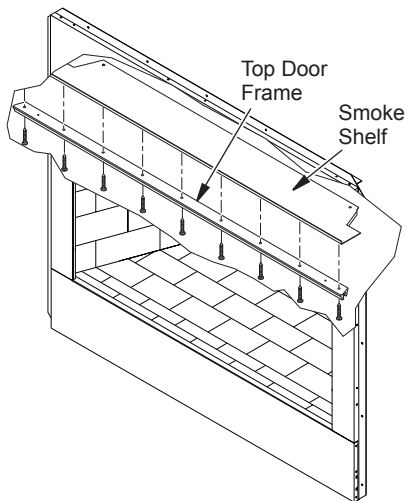

Figure 29 - Installing Top Door Frame
1. Remove screws from smoke shelf (see Figure 29, page 30).
2. Mount top door frame and secure with screws provided (see Figure 29, page 17).